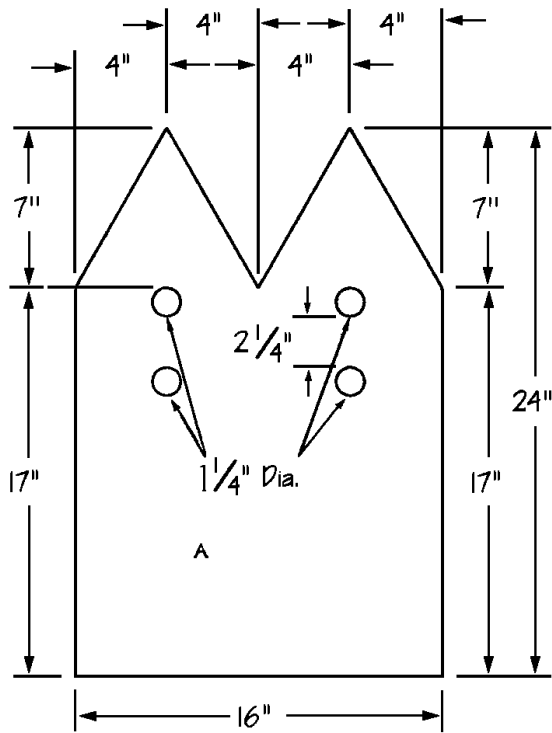

Figure 1
1. Following the pattern in *Figure 1*, cut two Front/Backs (A) from 1/2"-thick plywood. Designate one as "Front" (A) and one as "Back" (A).
2. Drill four 1-1/4"-diameter holes in the Front (A), following the placement shown in *Figure 1*. Do not drill any holes in the Back (A).